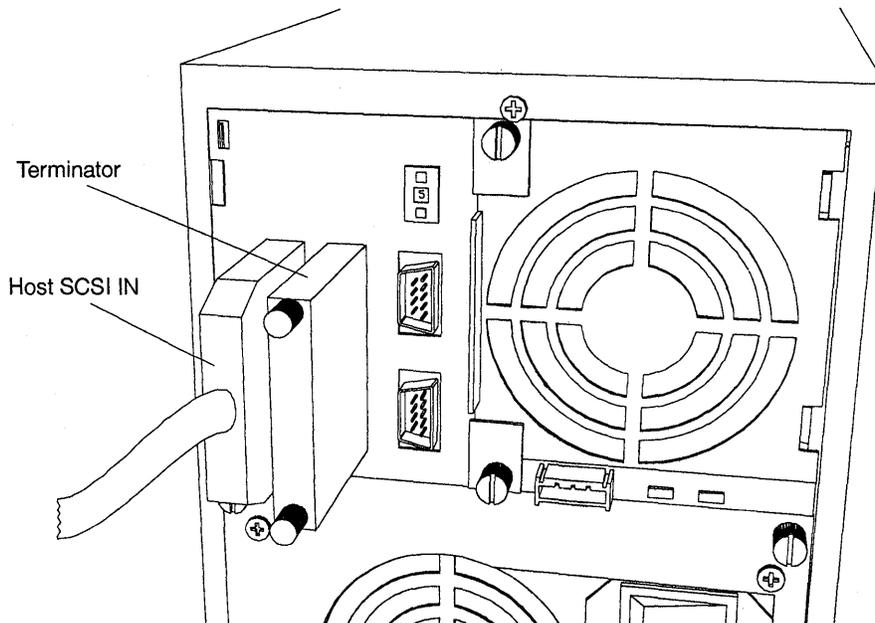

Figure 1-15: Host SCSI Bus Connection with External Terminator
- 3 Connect the Daytona to the host SCSI bus with a SCSI cable (the retail version of the Daytona ships with a SCSI cable). Plug one end of the cable into the Daytona's "Host IN" port and the other end into either the SCSI host adapter or the "OUT" port of another SCSI device if the Daytona is not the first external device on the bus. If the bus ends at the Daytona, plug a terminator (also shipped with the retail version) in the "Host OUT" port, as shown in Figure 1-15.